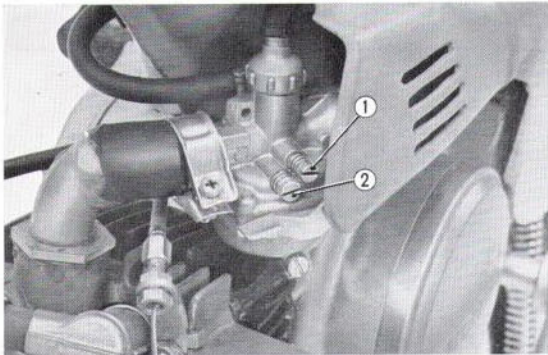

Fig. 1.15
3. Reduce the engine speed which has gone up in (2) to the lowest idling speed by regulating the throttle stop screw.
4. At this throttle stop screw setting, recheck the carburetor adjustment by manipulating the air screw. (**Fig. 1.15**)